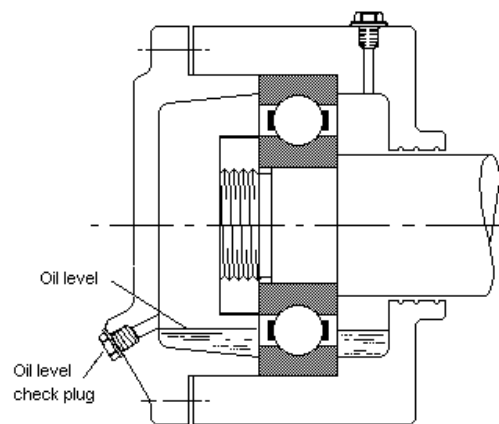

Figure 6.24: Oil-bath Lubrication
- oil bath—part of the housing acts as a *reservoir* for oil. The lower part of the bearing is under the surface of the oil and carries oil with it as it turns. (**Fig. 6.24**)